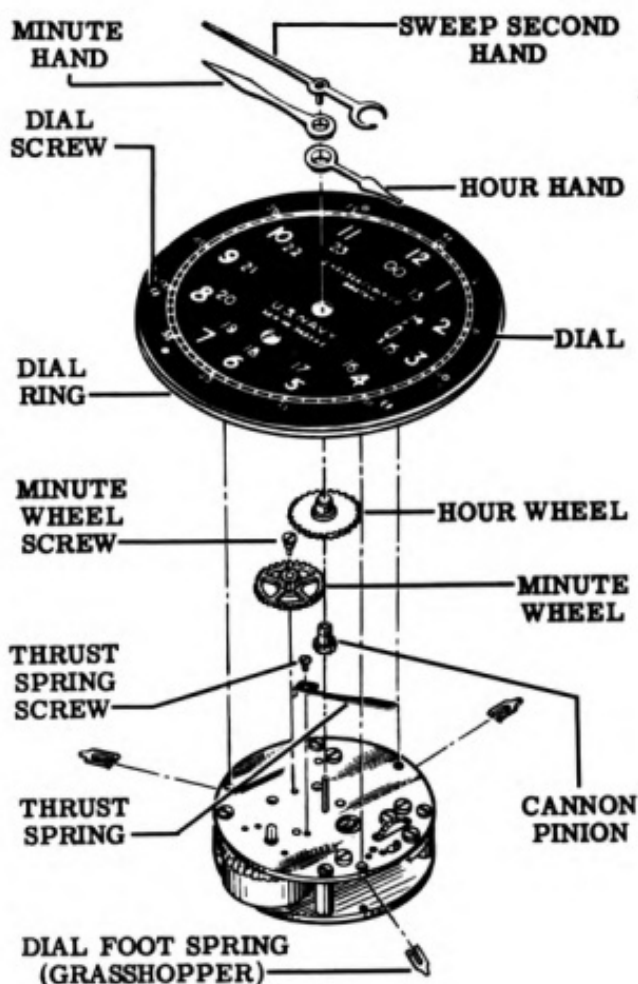

Figure 70
Put on the hour wheel. See Fig. 70 for the proper position of these parts.
1. Place the assembled dial and dial ring in position so that the dial feet project downward through the holes in the front plate. Press a grasshopper onto each dial foot slot, keeping the grasshopper points facing away from the back of the front plate. Position the grasshoppers so that they firmly grasp the feet and no part of the grasshopper projects out from under the front plate. Refer to Fig. 70.